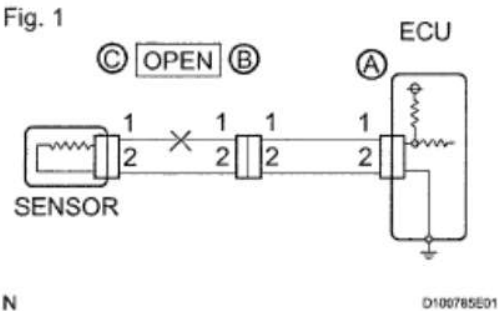

Fig. 37: Checking For Open Circuit
- a. For an open circuit in the wire harness in **Fig. 37**, check the resistance or voltage, as described below.